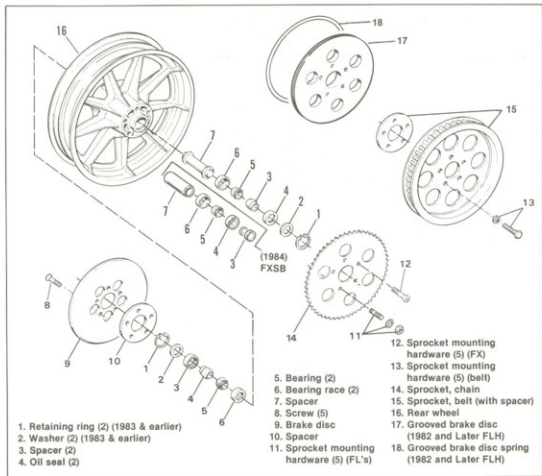

Figure 2-13. Cast Rear Wheel — All Models
CAST WHEEL (Figure 2-13)
CAST WHEEL — ALL MODELS EXCEPT 1984 FXSB AND 1983 FXDG (Figure 2-13)
CAST WHEEL — 1984 FXSB AND 1983 FXDG (Figure 2-13)
6. When all 20 inner spokes are installed, insert a spoke into an outside spoke hole on the same flange side. See Figure 2-13 and 2-14.